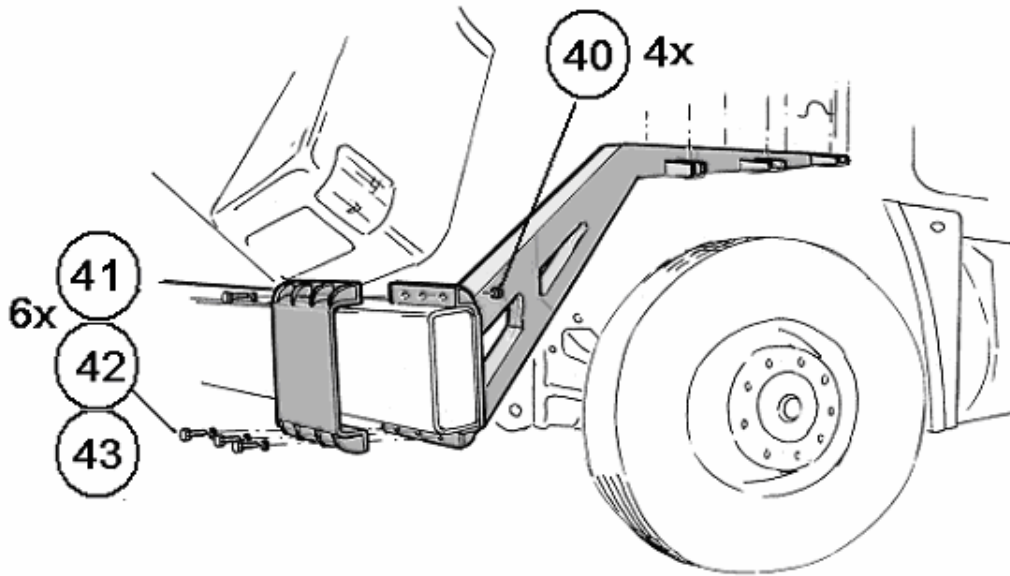

Figure 5-9. Installing the LH Wheel Housing - Placing the LH Wheel Housing Support Arm.
4. Connect part #659 with part #971 using six (6) 5/8" x 2-1/2" bolts (#383), 5/8" Star-Washers, 5/8" x 1-1/4" x 1/8" Flat-Washers, and 5/8" Nuts. Fasteners are arranged in the following order: Bolt, Star-Washer, Flat-Washer, and Nut. Install all 6 bolts and associated nuts and washers. Tighten the top 3 bolts first, and then tighten the lower 3 bolts. Torque to 230 Nm (170 ft-lb). Note: Thread-locking compound must be used on these fasteners.
5. Lift item #007 into position as shown in Figure 5-9. Insert the aft-most bolts first (item 22). Temporarily use the aft fasteners to hold the deflector in position. Install the center and forward fasteners next (do not tighten the bolts until all fasteners are in place). Apply thread-locking compound to the bolts. Install fasteners in the following order: